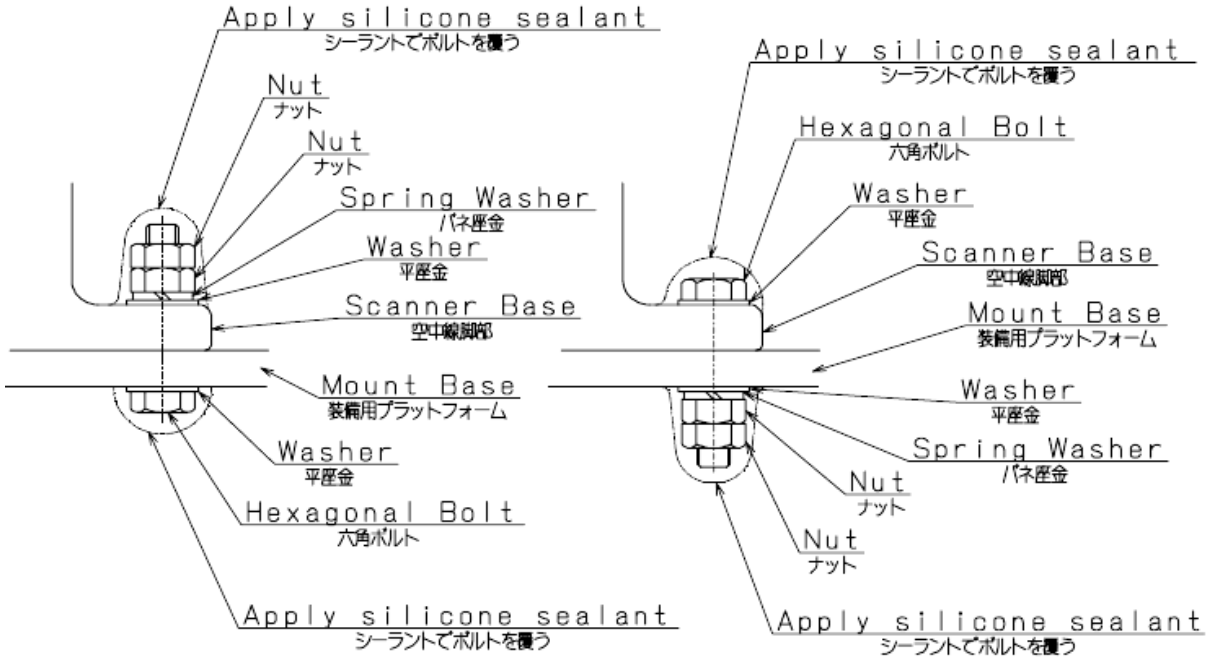

Fig 1-3-6-11
- At the location where a bolt's head comes in contact with the scanner chassis' legs and the mount base, insert a plain washer and spring washer which fit the bolt; and then securely tighten the bolts. (Fig. 1-3-6-12)
- To prevent corrosion due to the contacts between different metals, such as the scanner chassis' legs, installation surface, bolts etc., cover the bolt's head with sealant . (Fig. 1-3-6-11)